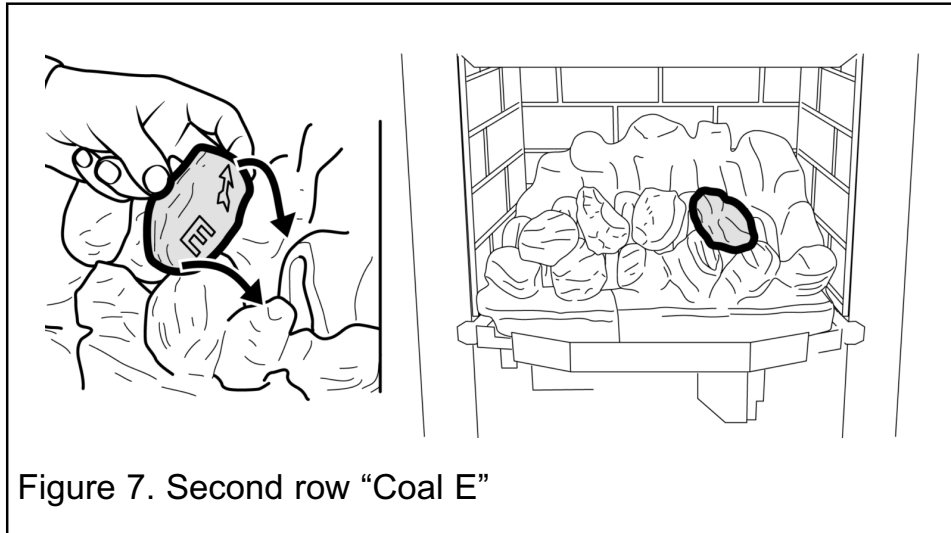

Figure 7. Second row "Coal E"
9. Hold coal 'E' upright with the arrow pointing to the top. Locate coal 'E' as shown in figure 7.